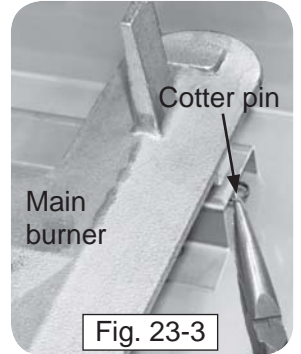

Fig. 23-3
3. Remove the cotter pin from the left or right rear burner anchoring peg by pulling it straight out of the cotter pin hole using fingers or needle-nose pliers (Fig. 23-3).